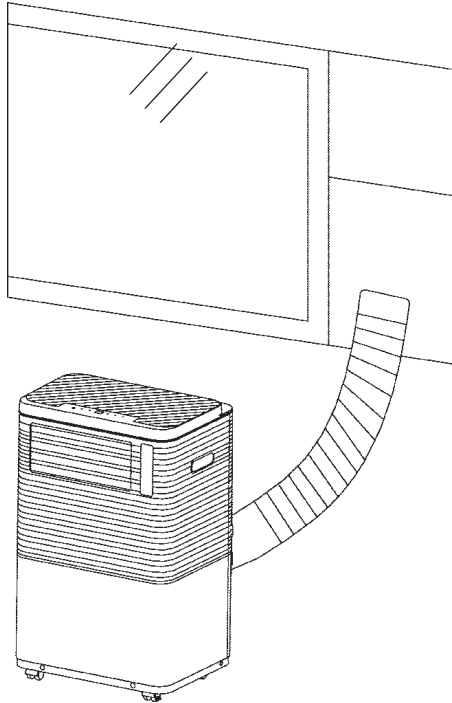
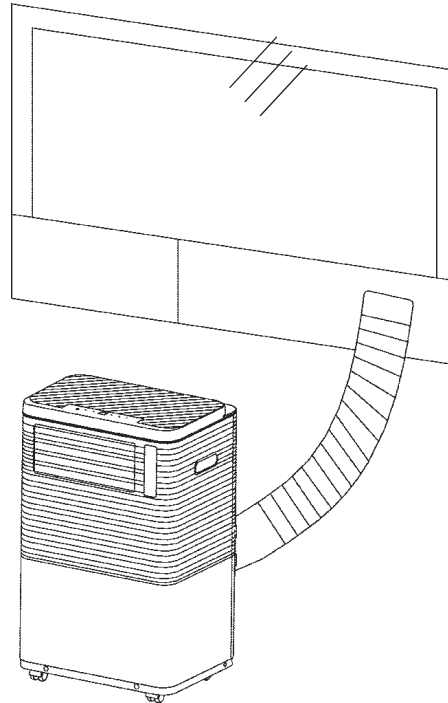

Fig 5
Fig 5a
- 2) As shown in Fig. 5 and Fig 5a, install the exhaust hose, and adjust the window position well